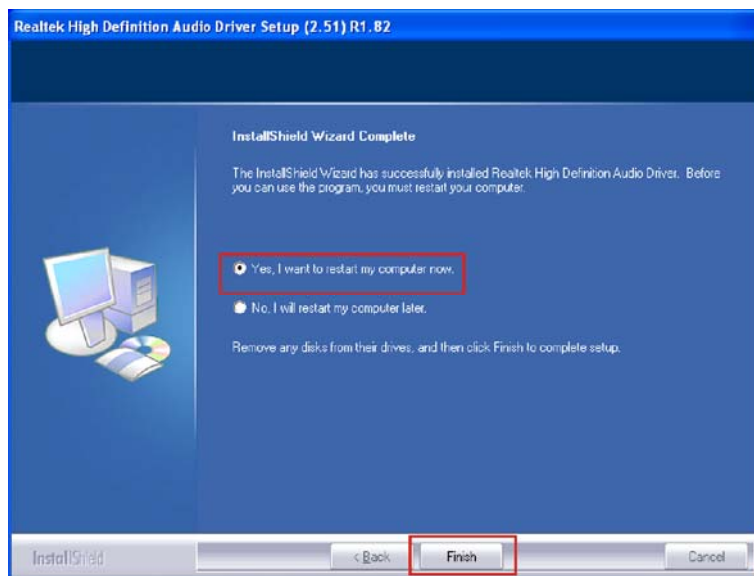

Figure 6-28: HD Audio Driver Installation Complete
Step 7: When the driver is installed, the driver installation finish screen in Figure 6-28 appears.